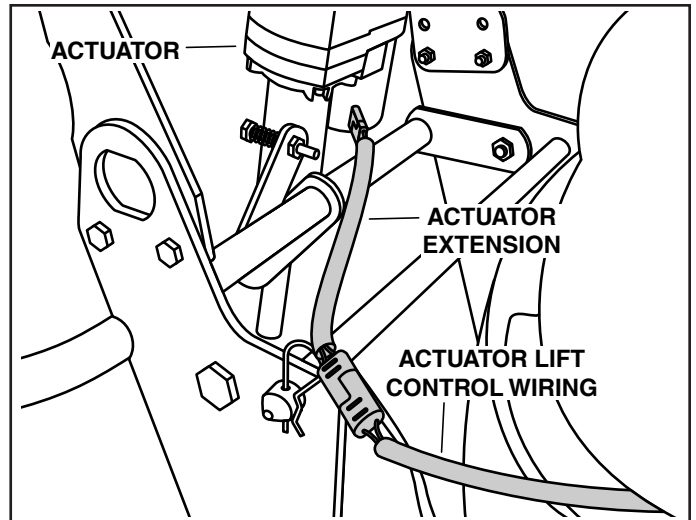

Figure 22.
3. See figure 22. Attach the actuator extension to the end of the actuator lift control coming out of the front bumper.
4. See figure 22. Attach the other end of the actuator extension to the actuator.